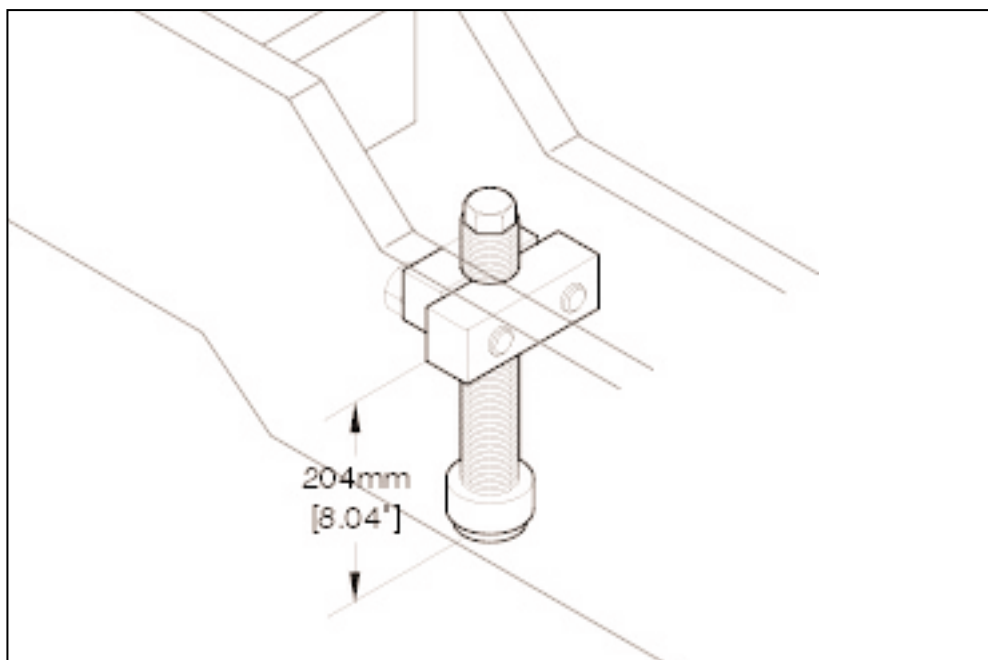

Figure 4.19 ADJUSTING STRIPPER HEAD SHOCK ABSORBERS
4.2.4 Adjust the stripper head shock absorbers to a dimension of 204mm [8.04"] from the bottom of the clamp blocks to the bottom of the rubber pads (see figure 4.19).